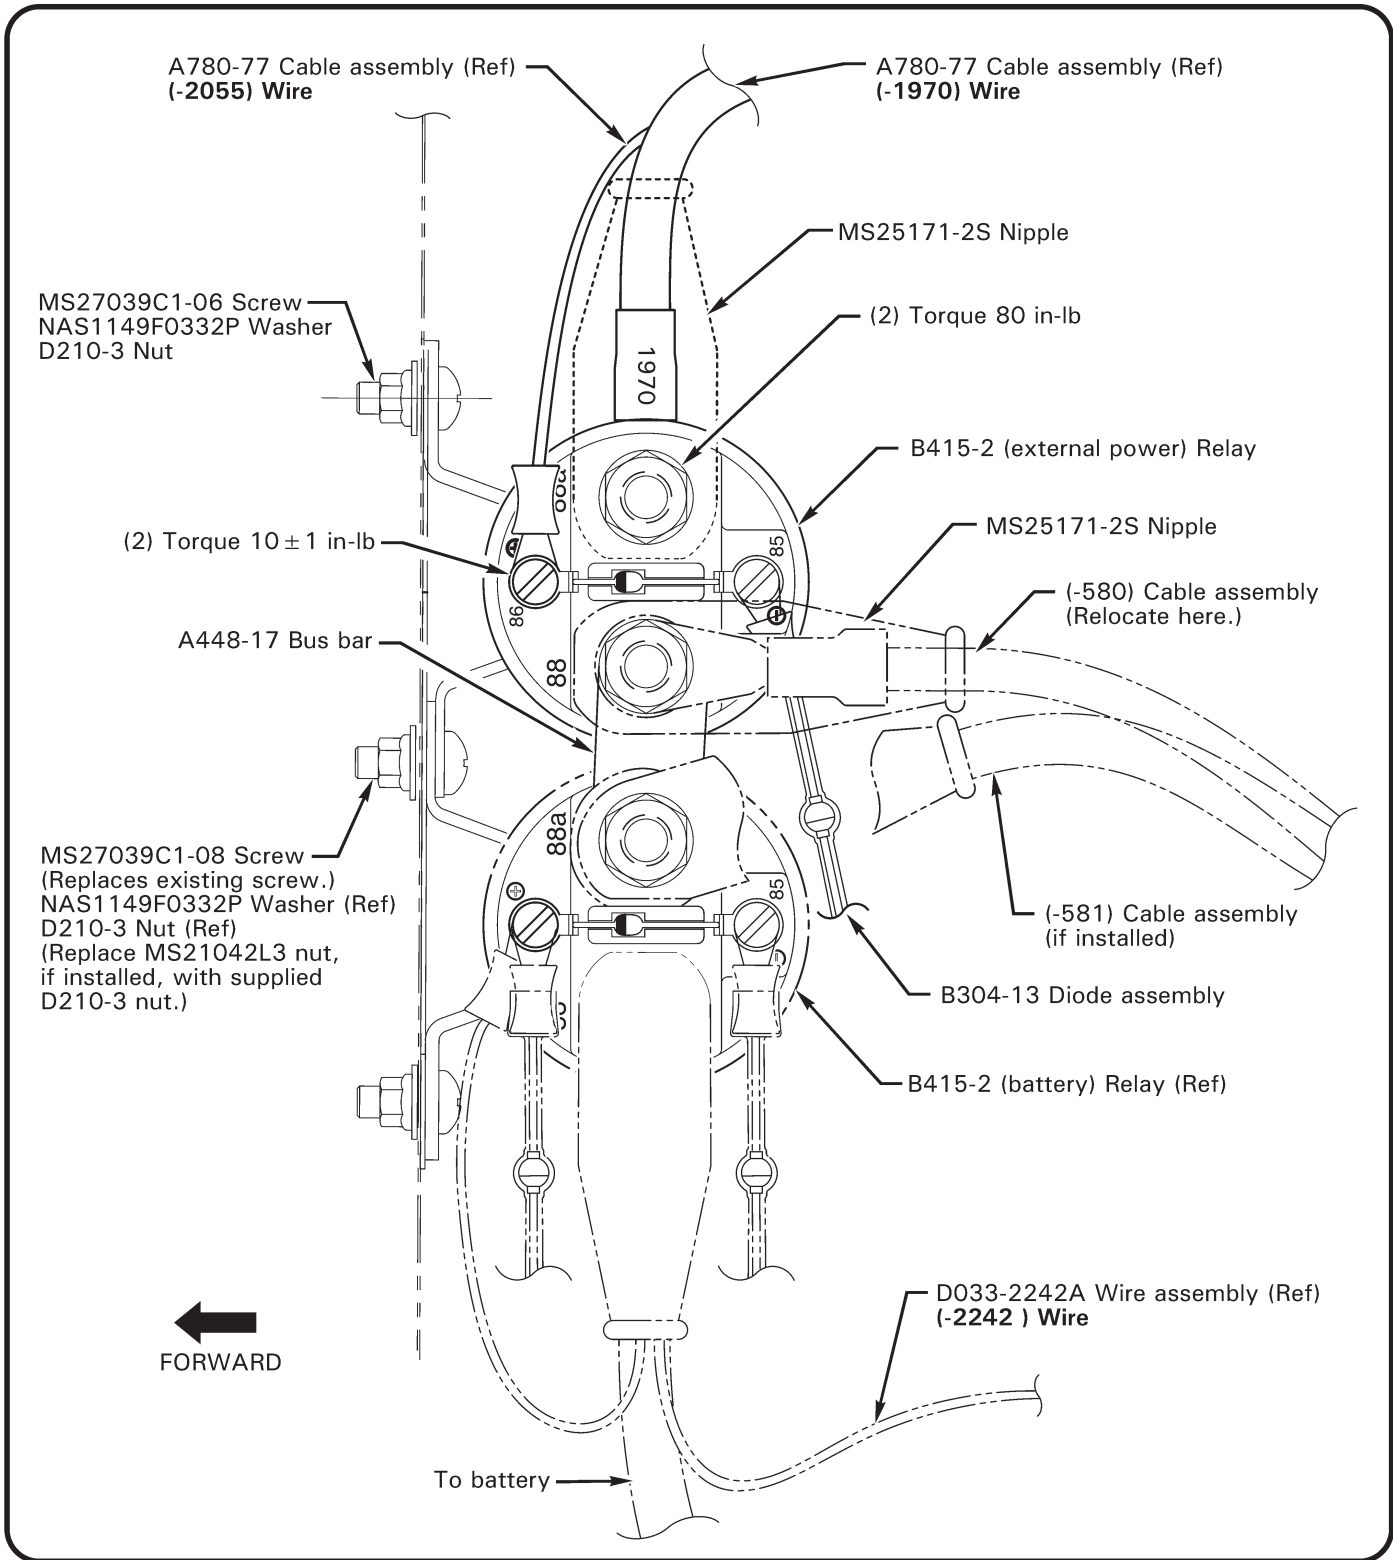

FIGURE 1
4. Refer to Figure 1. Remove & retain hardware securing cables to B415-2 (battery) relay contactor terminals (inboard and outboard).
17. Refer to Figure 1. Slide one MS25171-2S nipple onto A780-77 cable assembly's (-1970) wire. Install hardware securing A780-77 cable assembly's (-1970) wire to (external power) relay inboard stud and special torque nut to 80 in-lb. Torque stripe per MM Figure 2-1. Position nipple over stud. Install hardware securing A780-77 cable assembly's (-2055) wire to (external power) relay forward ("86", "+") terminal and special torque screw to 10 in-lb. Verify security.
A. For helicopters with stowed (-1964) wire: Refer to Figures 1 and 6. Discard KI-213-3 wire assembly. Connect B304-13 diode assembly to (-1964) wire. Install hardware securing diode's ring terminal to (external power) relay aft ("-", "85") terminal and special torque screw to 10 in-lb. Verify security.
Refer to Figure 1. Position A448-17 bus bar on (battery) relay inboard stud and (external power) relay outboard stud. Install hardware securing bus bar and cable (removed in step 4) to (battery) relay inboard stud. Install hardware securing bus bar to (external power) relay outboard stud. Special torque nuts to 80 in-lb and torque stripe per MM Figure 2-1.
B. For helicopters without stowed (-1964) wire: Refer to Figures 1 and 7. Strip end of KI-213-3 wire assembly's (-1964) wire and crimp B263-3 pin on wire. Inspect crimp per MM § 23-84. Connect KI-213-3 wire assembly to B304-13 diode assembly at connectors. Install hardware securing diode's ring terminal to (external power) relay aft ("-", "85") terminal and special torque screw to 10 in-lb. Verify security.
Refer to Figure 1. Position A448-17 bus bar on (battery) relay inboard stud and (external power) relay outboard stud. Install hardware securing bus bar and (-581) cable to (battery) relay inboard stud. Slide one MS25171-2S nipple on (-580) cable and install cable to (external power) relay outboard stud. Special torque nuts to 80 in-lb and torque stripe per MM Figure 2-1. Position nipples over studs.